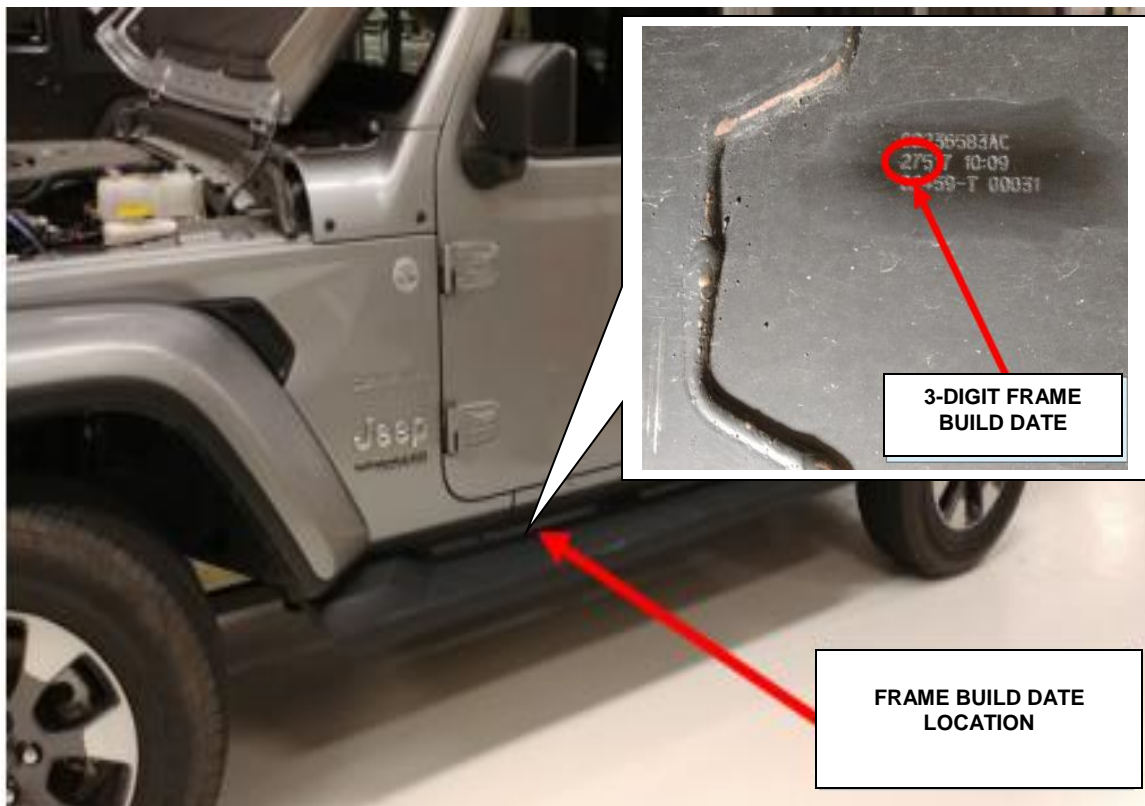

Figure 1 – Location of Frame Build Date
2. Inspect the 3-digit Frame build date located on the driver's side of the outer frame rail (Figure 1).
- Frame build date (Figure 1)